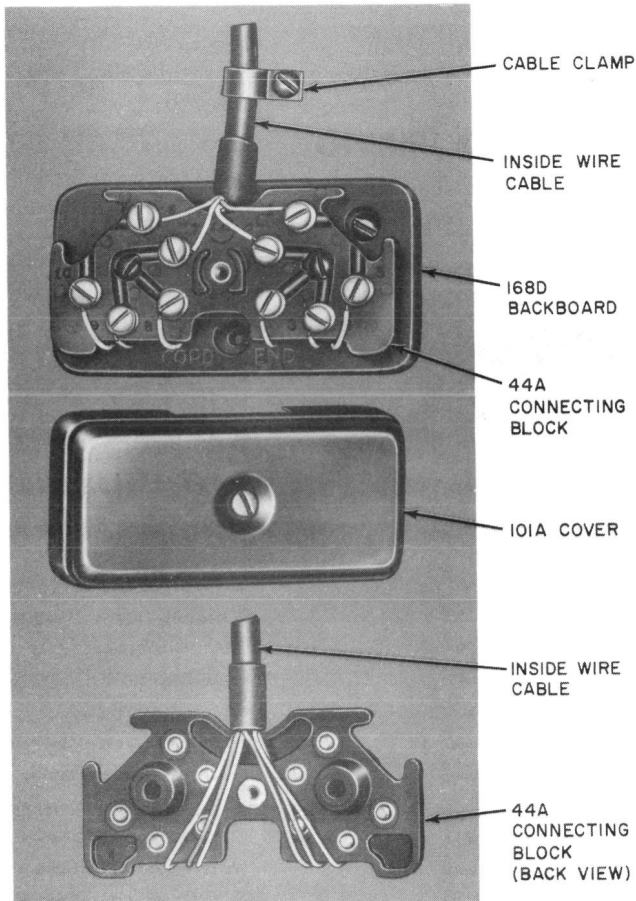

Fig. 2—1044A Connecting Block (44A Connecting Block and 101A Cover) With 168D Backboard
B. 44A Connecting Block (Fig. 2)